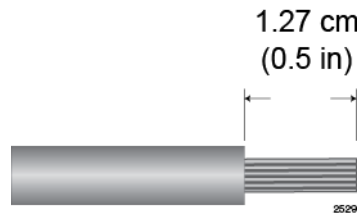

Figure 113. Stripping the Stranded Grounding Wire
1. Prepare an adequate length of stranded 10 AWG grounding wire by stripping it as shown in Figure 113.